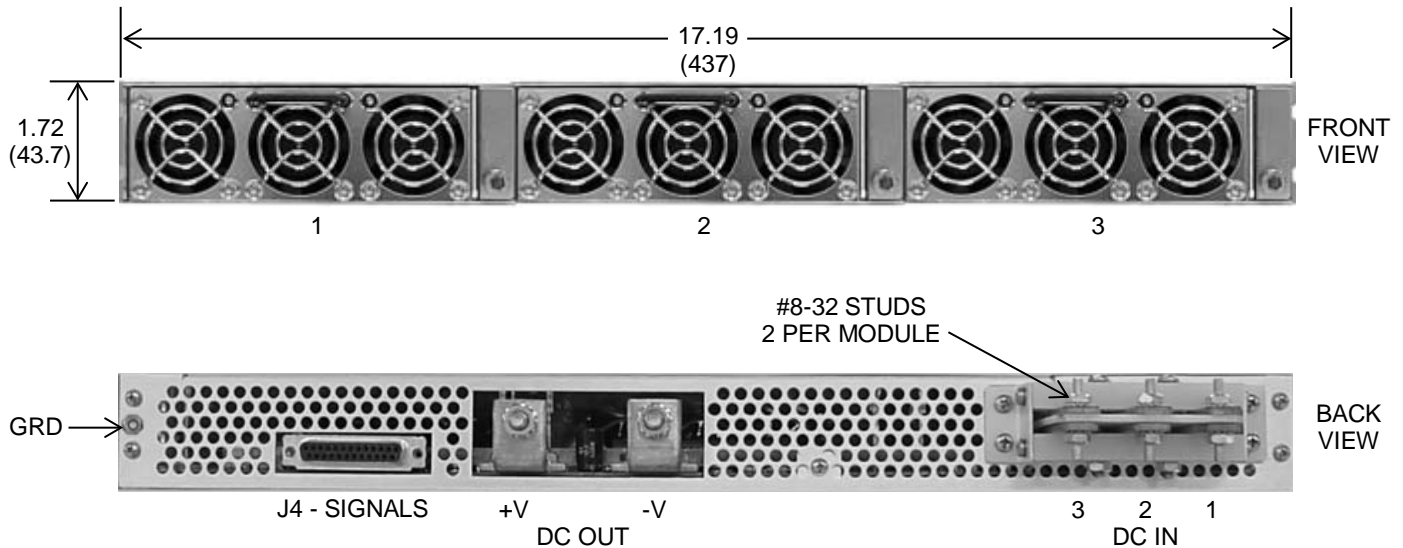

Figure 4 – TPCMQR1U3-24 Rack/Shelf Front & Back Views
- 11.1 Input Voltage** - The TPCM24 Series converters operate from DC input voltages within the range of 20 to 30VDC. There is a separate input connection for each converter module to bus bars at the rear of the rack/shelf. For complete details see Section 16.2 and Figure 4 above.
- 11.2 Output Connections** - The DC output of the rack/shelf is provided at two copper bus bars. Each bus bar has a no. ¼-20 stud and nut for the output connections. For complete details see Section 17.3 and Figure 4 above. Both positive and negative outputs are floating and isolated from the chassis.